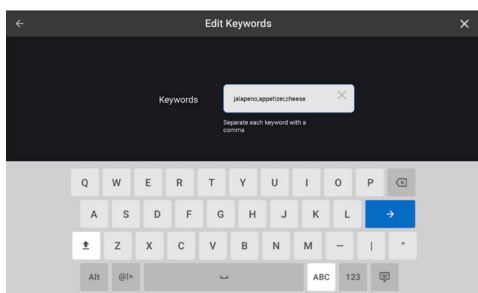

Figure 28: New Recipe Keywords
6. Input keywords for the search option and touch the blue arrow button to continue (Figure 28).